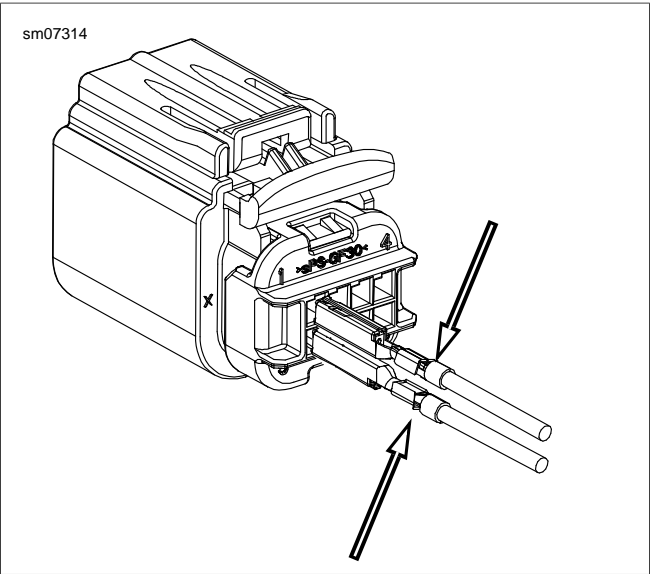

Figure A-69. Socket Terminal Orientation: Crimp Open Side
2. See Figure A-69. Orient the open side of the crimp to the lower or the upper terminal row.